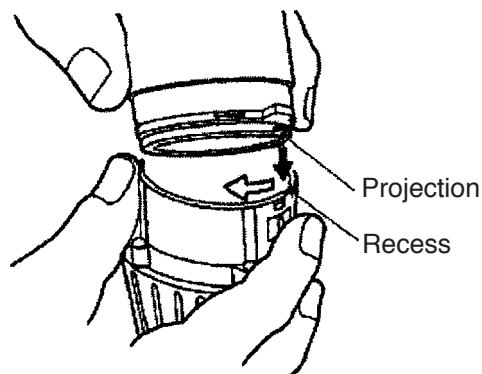

Fig. 16
(f) Install the assembly reassembled in step (1) and the assembly reassembled in step (e) together. (See Fig. 16.)